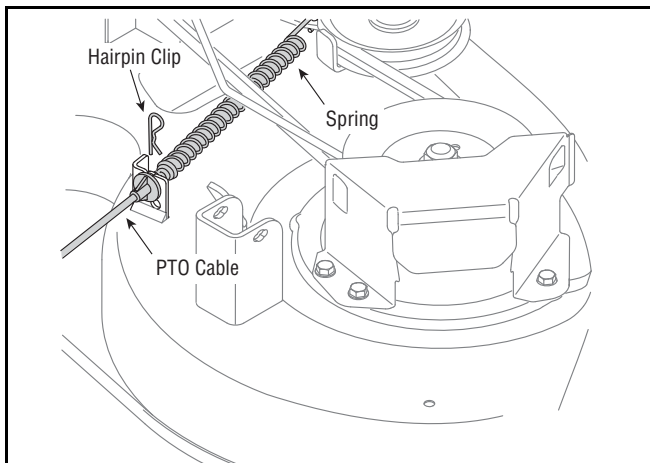

Figure 22
3. Remove the hairpin clip that secures the PTO cable to the rear of the cutting deck. See Figure 22.